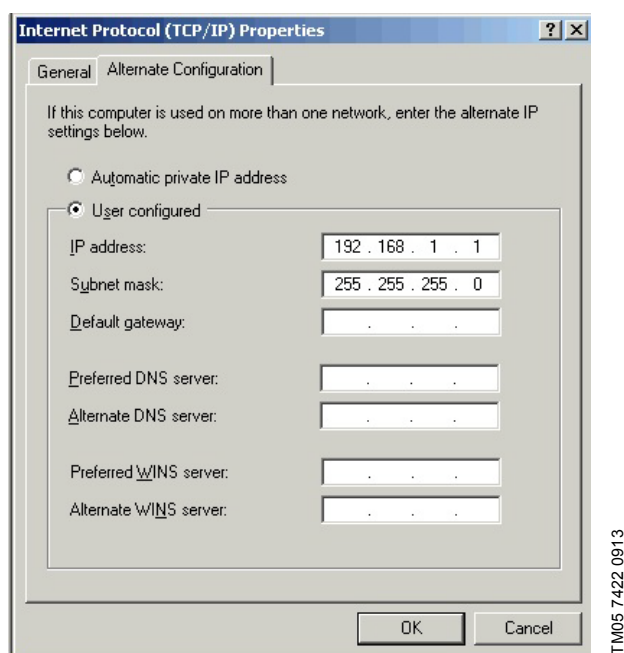

Fig. 24 Example from Windows XP
7. Configure an IP address and subnet mask to be used by your PC. See fig. 24.